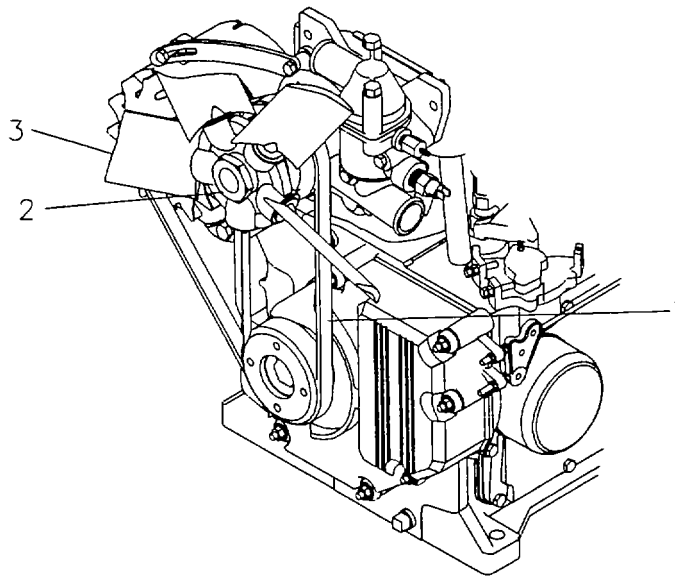

Figure 5-9. Radiator Fan.
a. Removal, Refer to figure 5-9.
b. Installation. Refer to figure 5-9.
- 1) Install the fan (3) and secure with nut (2) by turning counterclockwise. Torque nut (2) to 22 ft. lb./30 Nm.
- 2) Check fan belt (1) tension. Refer to paragraph 4.21